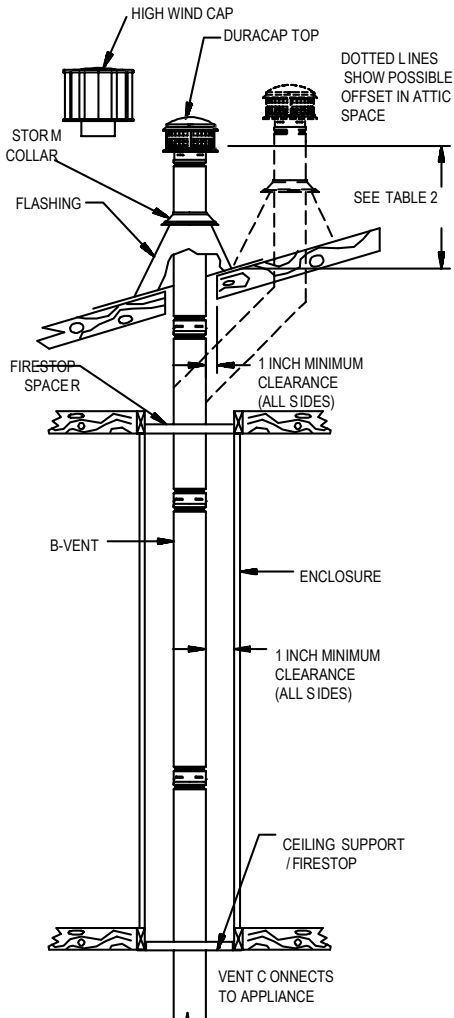
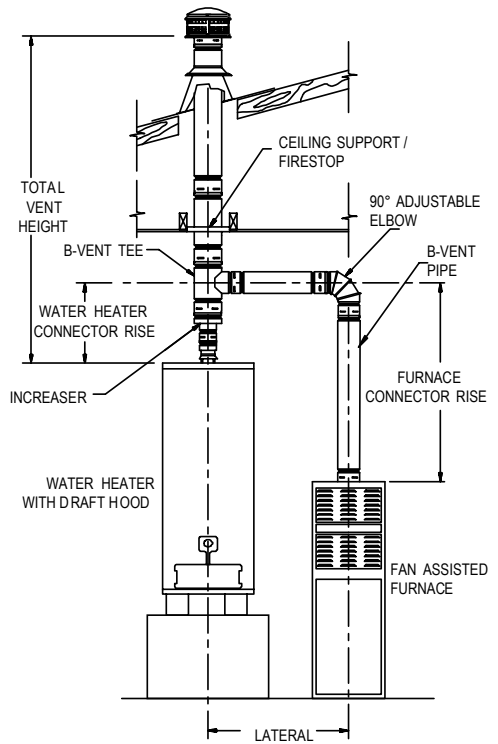
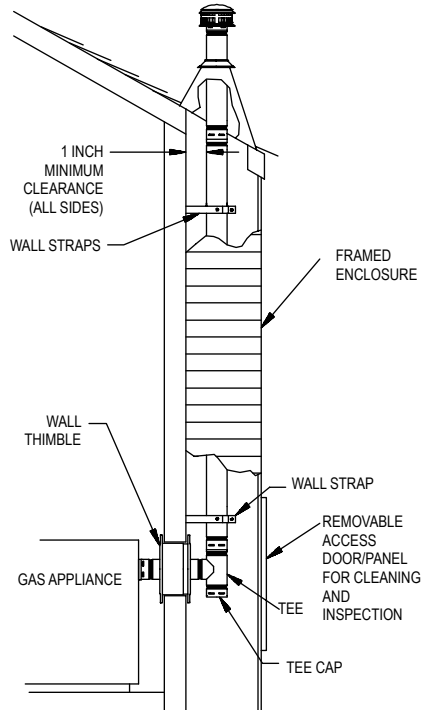

Figure 1
Figure 2
Figure 11
3. Figures 1, 2, & 3 show examples of some typical residential installations.
8. Tees and Wyes. Tees and Wyes are used to combine connectors from 2 or more appliances into a common vent as shown in **Figures 2 and 3**. A Tee should be used in a through-the-wall application, (**Figure 11**), as they have a removable Tee Cap (available as a separate item) attached to the bottom. This Tee Cap may be removed in order to inspect the system, or to clean out debris or collected condensate from the common vent. Wall Straps should be used to support the vertical pipe as needed to provide a secure installation. Wall Straps every four feet are required.
9. Enclosures. Any portion of the vent which passes through an occupied area must be enclosed, to prevent accidental damage to the system, as well as burns. **Figure 1** shows a system which passes through an occupied second floor. DuraVent does not recommend installation of B-Vent Pipe on the outside wall of a building, particularly in cold climates. If it is necessary to do this, enclose the outside portion of the system in a chase, as shown in **Figure 11**. Consult the Local Authority